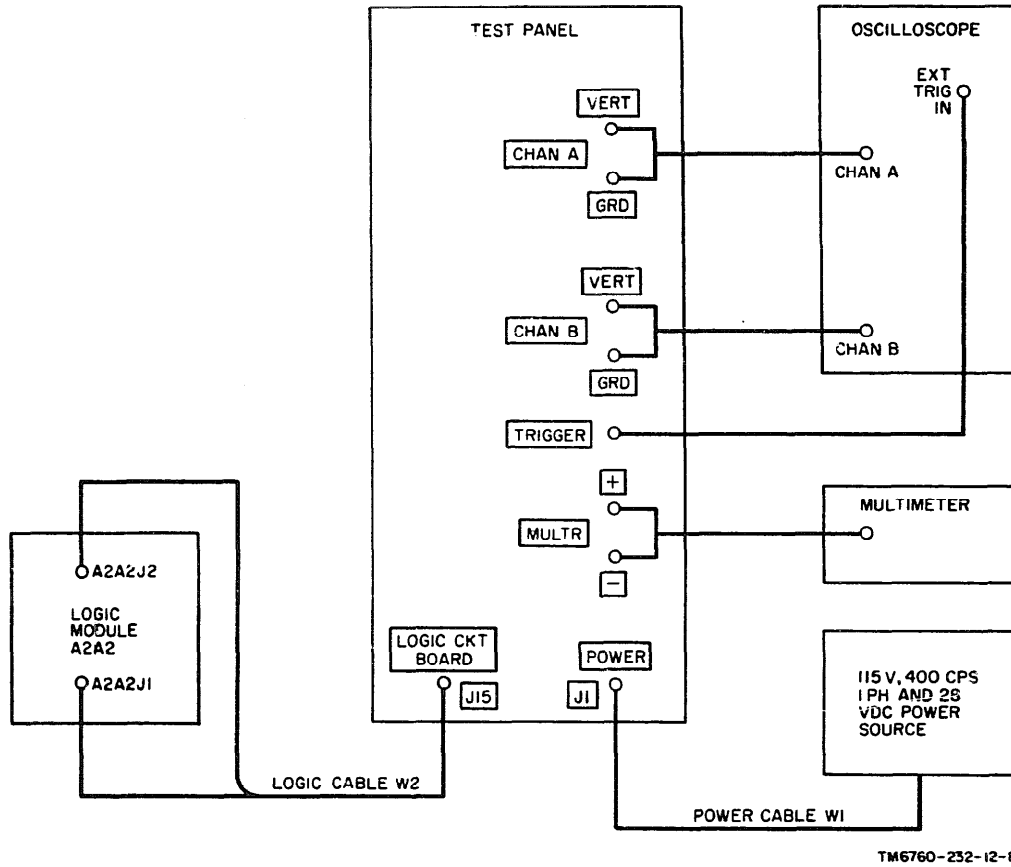

Figure 3-8. Logic module A2A2 test, interconnection diagram.
b. Remove logic module A2A2 from pod assembly and connect for logic module test as shown in figure 3-8.